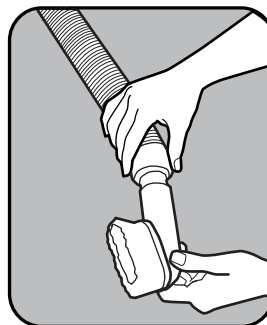

Fig. 2
2. Attach any of the on-board tools to the end of the hose if you do not need the wand (Fig. 2).